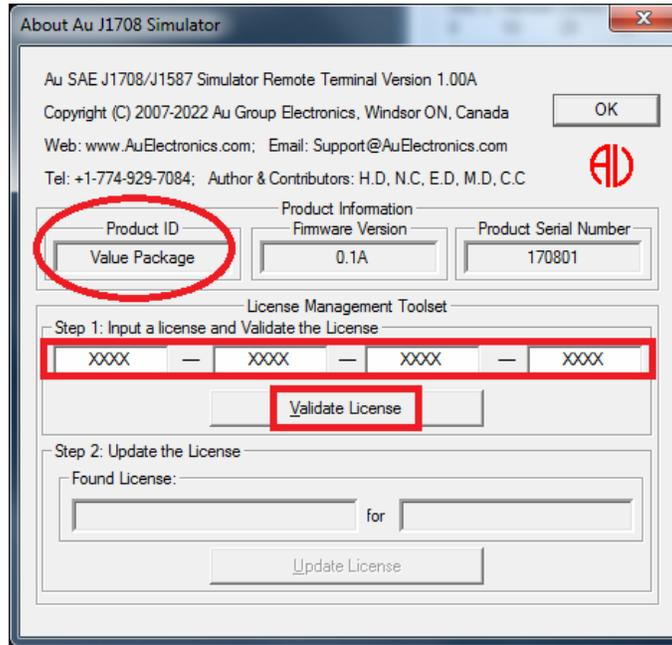

Figure 6-10
- 4. A "About Au J1708/J1587 Simulator" window will pop up (Figure 6-10). Enter a validate license code, and then click "Validate license" button to continue.